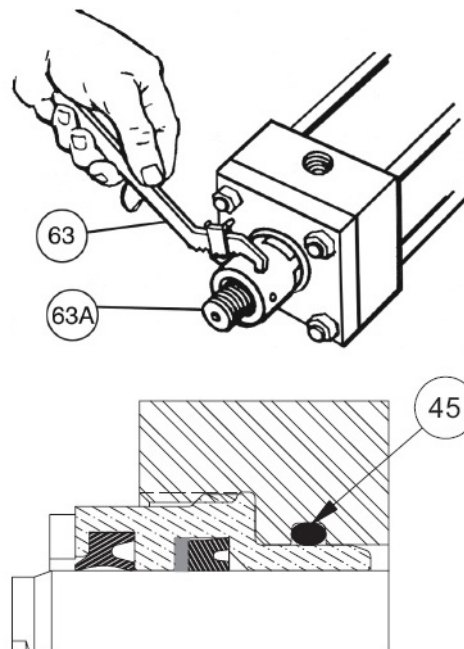

Figure 1
3. Using Gland Wrench (symbol 63) and Spanner Wrench (Symbol 63-A), unthread the gland from the cylinder head. See Figure 1.
4. The new gland assembly will come assembled, with an o-ring (Symbol 45). In most cases when replacing the gland only, the original o-ring in the cylinder head (Symbol 45) does not need to be replaced. See Figure 1.